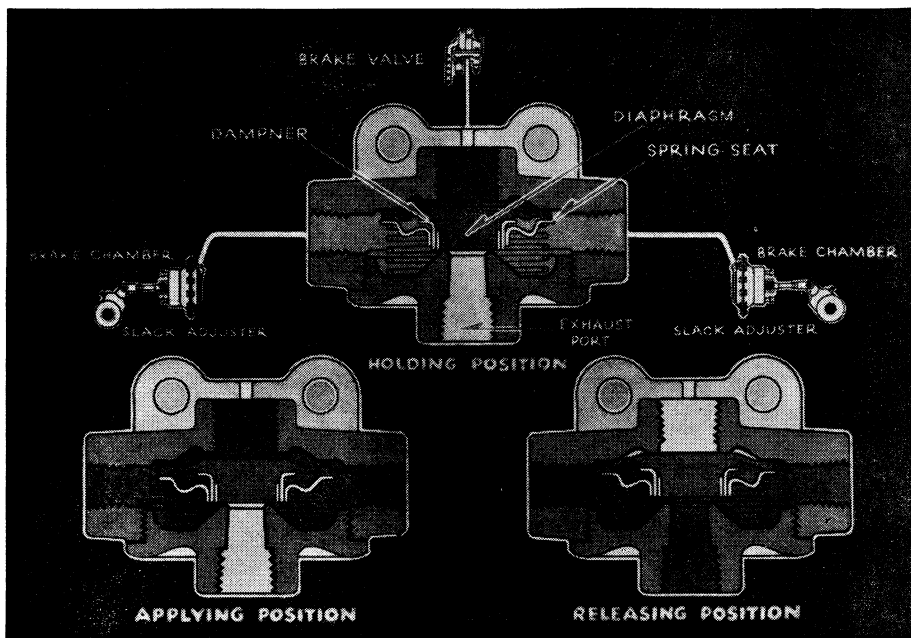

Fig. 21 Applying, holding and releasing positions of Quick Release Valve
The quick release valve assumes three positions during normal operation. These three positions are (1) the applying position, when air pressure is passing through the valve into the brake chambers; (2) the holding position, when pressure is being held in the brake chambers; (3) the releasing position, when the brake chamber pressure is being exhausted, Fig. 21.